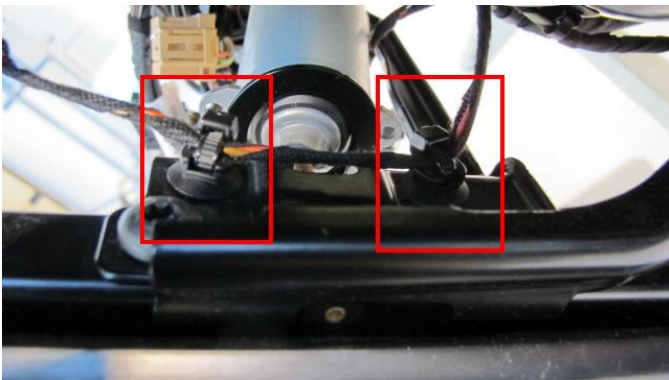

Figure 15
- Remove the two cable ties which secure the loom to the seat rail clips (Figure 15)
- Cable tie the loom back to its original position as Figure 15